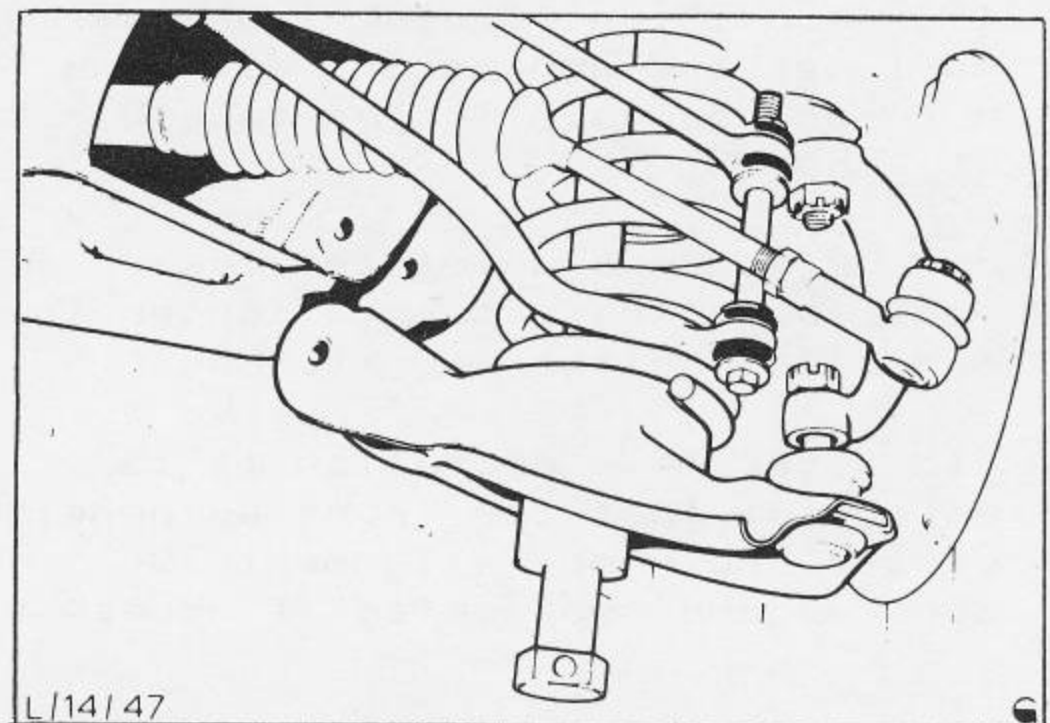

Fig.34 Locating lower arm to frame.
16. Lubricate ends of lower arm bush with soap/water solution. Locate arm in chassis and refit pivot Fig.34 bolt, washer and nut ensuring that bolt head is positioned towards rear of vehicle. Do not fully tighten nut at this stage.